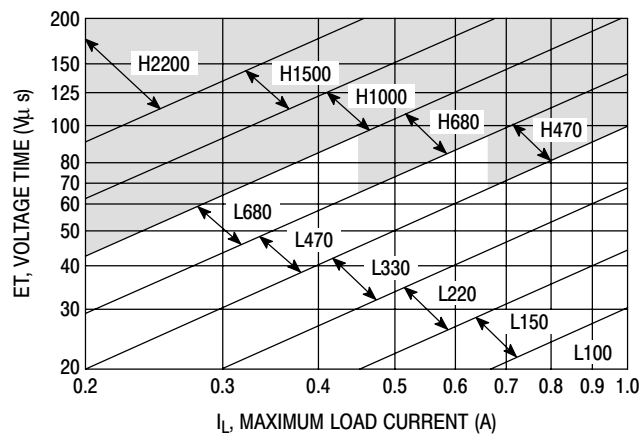

Figure 21. LM2575-Adj
4. Inductor Selection (L1) A. Use the following formula to calculate the inductor Volt x microsecond [V x μs] constant: $E \times T = (V_{in} - V_{out}) \frac{V_{out}}{V_{on}} \times \frac{10^6}{F[\text{Hz}]} [\text{V} \times \mu\text{s}]$ B. Match the calculated E x T value with the corresponding number on the vertical axis of the Inductor Value Selection Guide shown in Figure 21. This E x T constant is a measure of the energy handling capability of an inductor and is dependent upon the type of core, the core area, the number of turns, and the duty cycle. C. Next step is to identify the inductance region intersected by the E x T value and the maximum load current value on the horizontal axis shown in Figure 21. D. From the inductor code, identify the inductor value. Then select an appropriate inductor from the Table 1 or Table 2. The inductor chosen must be rated for a switching frequency of 52 kHz and for a current rating of $1.15 \times I_{load}$. The inductor current rating can also be determined by calculating the inductor peak current: $I_{p(\text{max})} = I_{\text{Load}(\text{max})} + \frac{(V_{in} - V_{out}) t_{on}}{2L}$ where t_{on} is the "on" time of the power switch and $t_{on} = \frac{V_{out}}{V_{in}} \times \frac{1}{f_{osc}}$ For additional information about the inductor, see the inductor section in the "External Components" section of this data sheet.	4. Inductor Selection (L1) A. Calculate E x T [V x μs] constant: $E \times T = (12 - 8.0) \times \frac{8.0}{12} \times \frac{1000}{52} = 51 [\text{V} \times \mu\text{s}]$ B. E x T = 51 [V x μs] C. $I_{\text{Load}(\text{max})} = 1.0 \text{ A}$ Inductance Region = L220 D. Proper inductor value = 220 μH Choose the inductor from the Table 1 or Table 2.